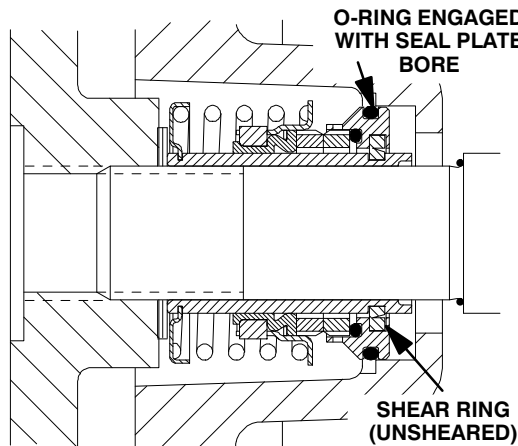

Figure 10. Seal Partially Installed
Clean and inspect the impeller as described in **Impeller Installation and Adjustment**. Install half of the set of impeller shims (2) provided with the seal, and screw the impeller onto the shaft until it is seated against the seal (see Figure 10).